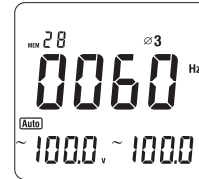

Figure 28
- Press **SELECT** again to choose the third phase  $\varnothing 3$ , see figure 28.